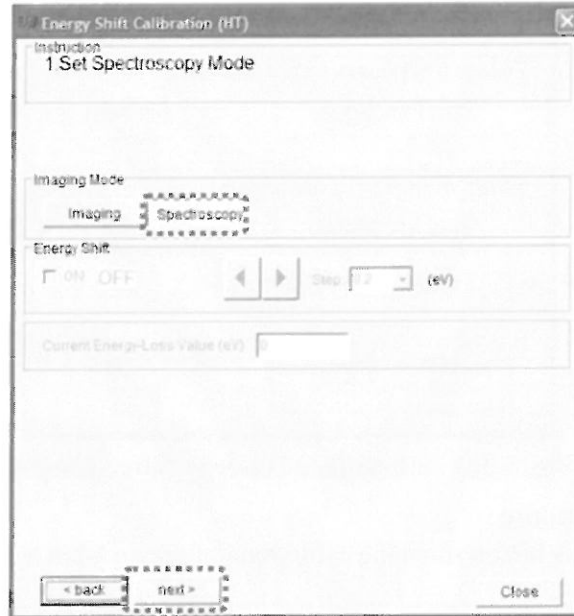
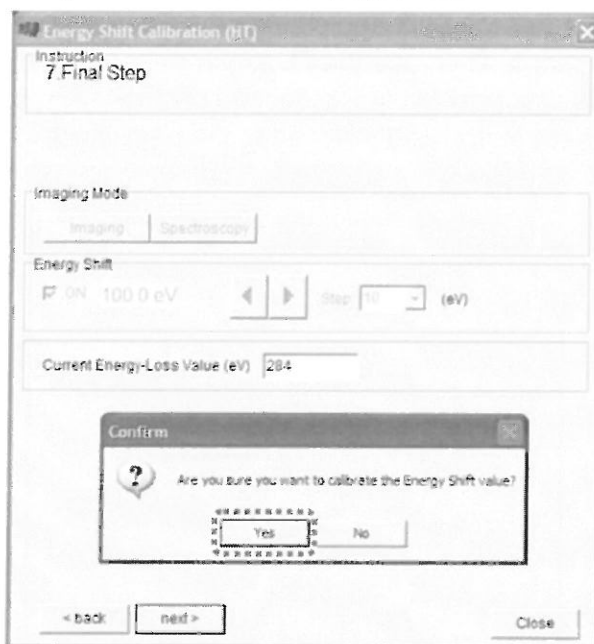

Fig. 5.37 Energy Shift Calibration (HT) - 1. Set Spectroscopy Mode
Fig. 5.43 Completing the Energy Shift Calibration (HT)
Clicking this button starts the calibration of energy shift by HT. Follow the wizard instructions and continue the process (Fig. 5.37 through Fig. 5.43).
1. Follow “Instruction — 1. Set Spectroscopy Mode” and press the **Spectroscopy** button and select the SPCTRE mode (Fig. 5.37). When the selection is complete, press the **next** button and proceed to the next window.
- Pressing the **next** button in procedure 6 will display the Confirm window. Press **Yes** and complete the calibration (Fig. 5.43).